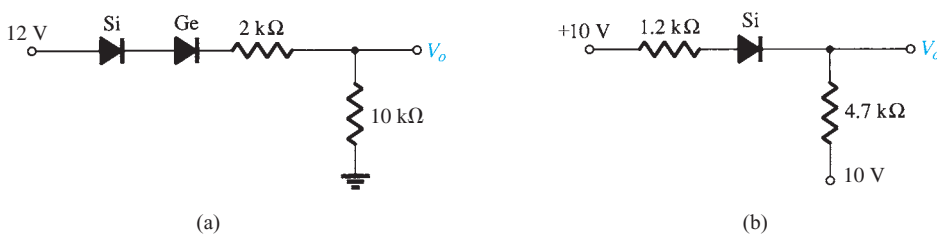

FIG. 2.157
- *7. Determine the level of V_o for each network of Fig. 2.157.